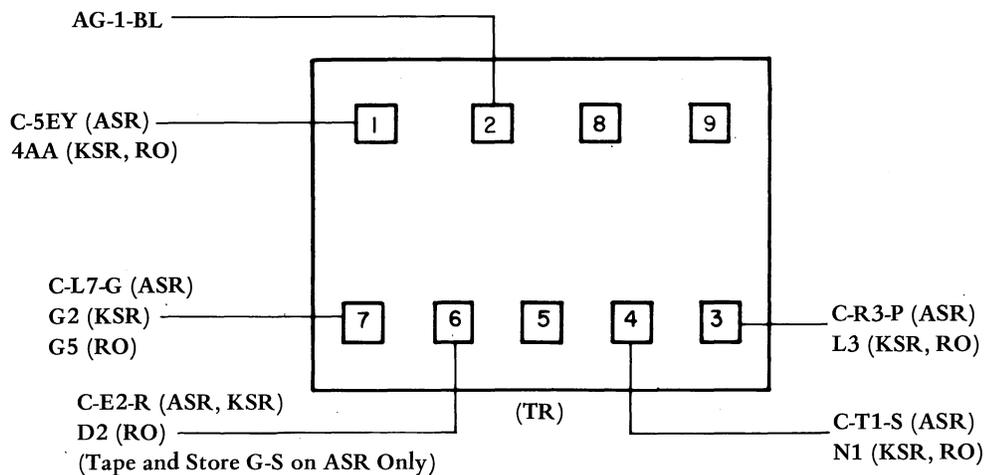

Figure 2 - TP181879 Transformer Connections (10-14-48 V AC)
- (c) Connect transformer cable TP336498 to terminals (Figure 2).